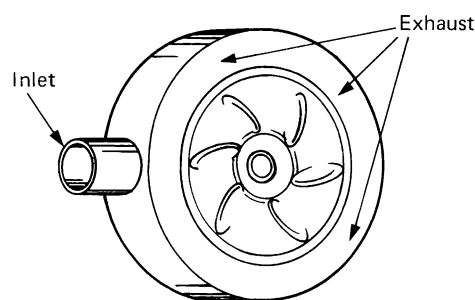

Fig. 16-12 A typical swirl-type muffler
**Some Accessory Silencers.** Spark arrestors of the swirl type redirect the exhaust gases past a baffle in a swirl pattern so they exit through a ring-type slot to the atmosphere. These little devices work well where a very narrow, very quiet unit is needed (Fig. 16-12).